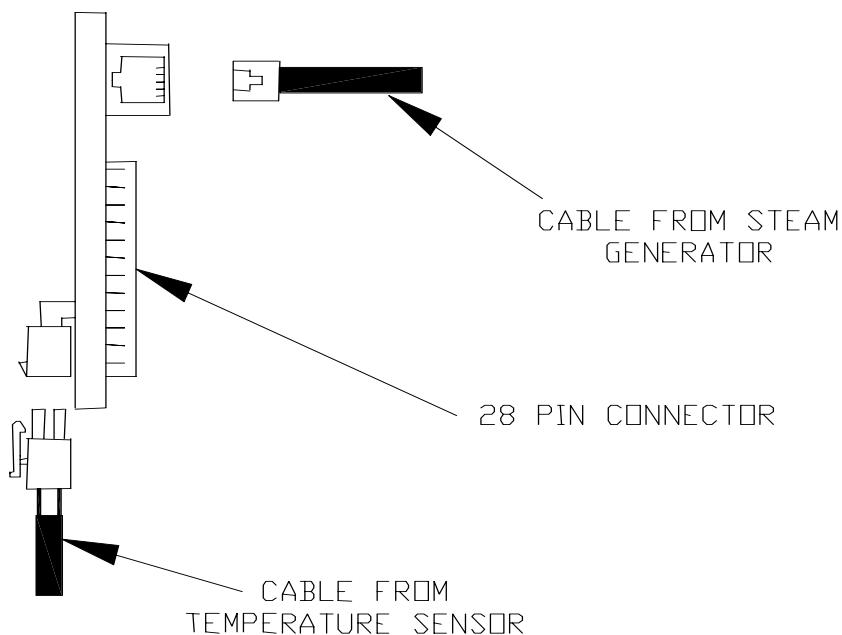

Figure 14
15. Install 18 AWG wire for Moodlight from the Command Module location to the location where the Moodlight will be placed (if Moodlight option is used). See **Figure 14** for wiring detail. Refer to Moodlight Installation Instructions for installing the Moodlight fixture.
16. Install 18 AWG wire for speakers from the Command Module to the location where the speakers will be placed (if Phone and/or CD Changer option is used). See **Figure 14** for wiring detail. Refer to Installation Instructions: Speakers – CD Changer - Phone for installing these components.
19. Plug the temperature sensor cable into the steam board. Plug the cable from the generator into the steam board, see **figure 14.**